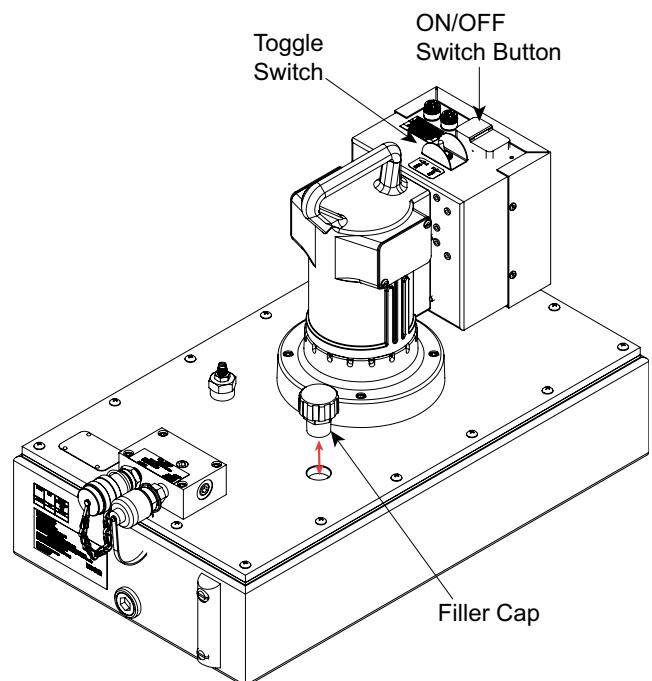

Fig. 11: PE55 Pump Unit (shown PE552MX2)
- B. Remove the filler cap and insert a clean funnel with a filter (see figure 11).
- C. Ensure that both the eSync unit and pump unit are in the OFF state, and verify that no buttons are pressed on the pendant (see figure 11).
- **The pump unit can be turned ON or OFF independently using the ON/OFF push button switch (see fig. 11).**